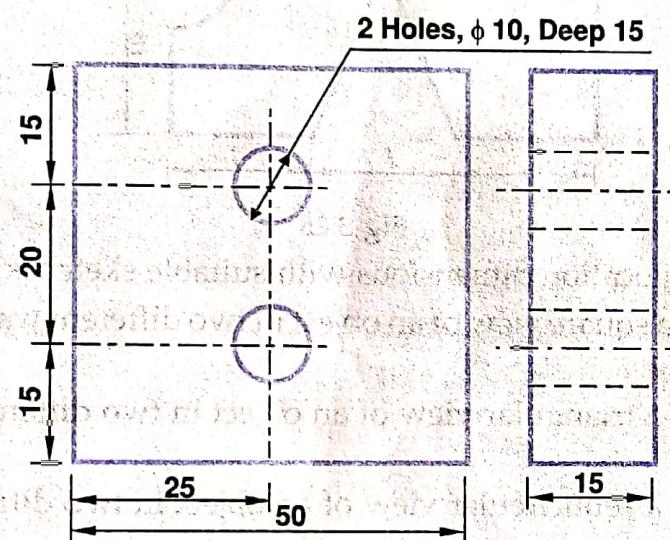

Fig. 3.26 Typical case of dimensioning of a hole size
- (xv) Holes should be dimensioned in the view, in which they appear as circles. See Fig. 3.26.